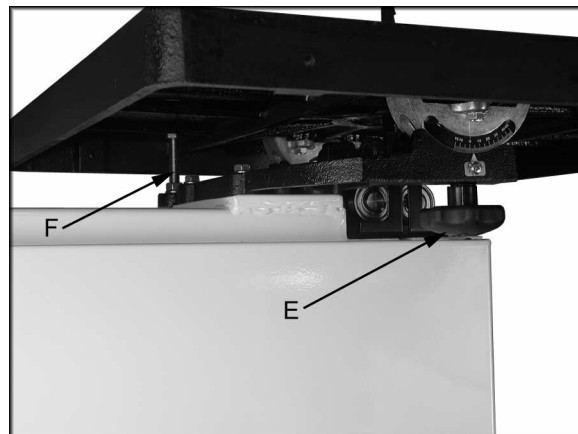

Figure 16
2. Loosen the lock knobs (E, Fig. 16).
**Note:** Table stop bolt (F, Fig. 16) must be removed to tilt table to the left.